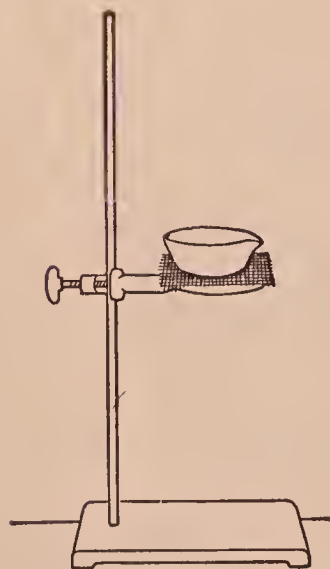

FIG. 41. — Evaporating a solution
**APPARATUS.** — As in Fig. 41 ; glass rod.
Evaporate the solution to dryness by heating the dish on a gauze-covered ring (Fig. 41). Heat carefully toward the end to prevent spattering. When dry (or nearly so), heat strongly until the yellow color (due to the slight excess of hydrochloric acid added) disappears, then moisten the whole residue carefully with